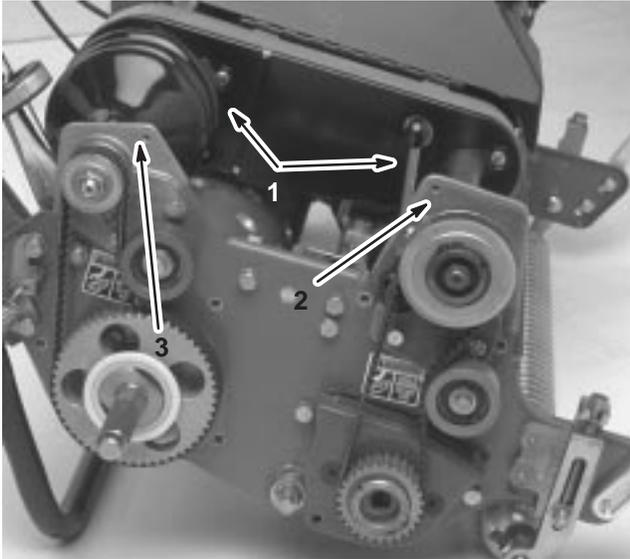

Figure 41
- Remove the capscrews securing the front and rear sections of the differential cover to the differential housing and slide the cover sections away to expose the belt (Fig. 41).
- Remove the 2 capscrews and locknuts securing the front clutch housing to the side plate (Fig. 41).
- Remove the 2 capscrews and locknuts securing the right rear bearing housing to the side plate (Fig. 41).